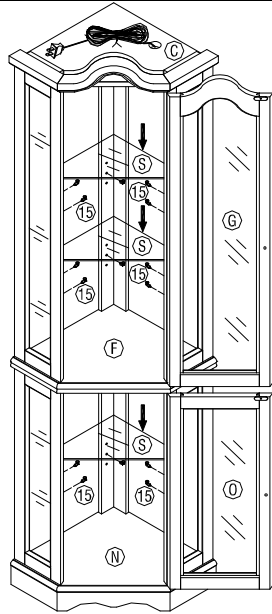

Figure 11
FIT SHELF SUPPORTS (15) INTO PREDRILLED HOLES ON INSIDE OF PARTS (A, B, D, E, I, J, L, M), AND PUT GLASS SHELVES (S) ON EACH SHELF SUPPORTS (15). AS SHOWN IN FIGURE 11.